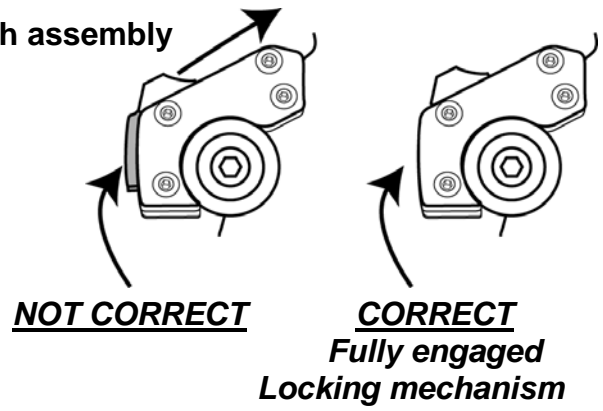

Fig. 2
The Santoprene grommets should be inserted through the holes in the fairing so that the flat round part of the grommet lies flat on each side of the plastic. Tabs point in towards the headlight. (Fig. 2)
4. Slip the mounting plates and fairing onto the fork clamps, (Fig 3) while guiding the bezel over the headlight (Fig. 2) and under the brow. Secure the left and right side locking mechanism